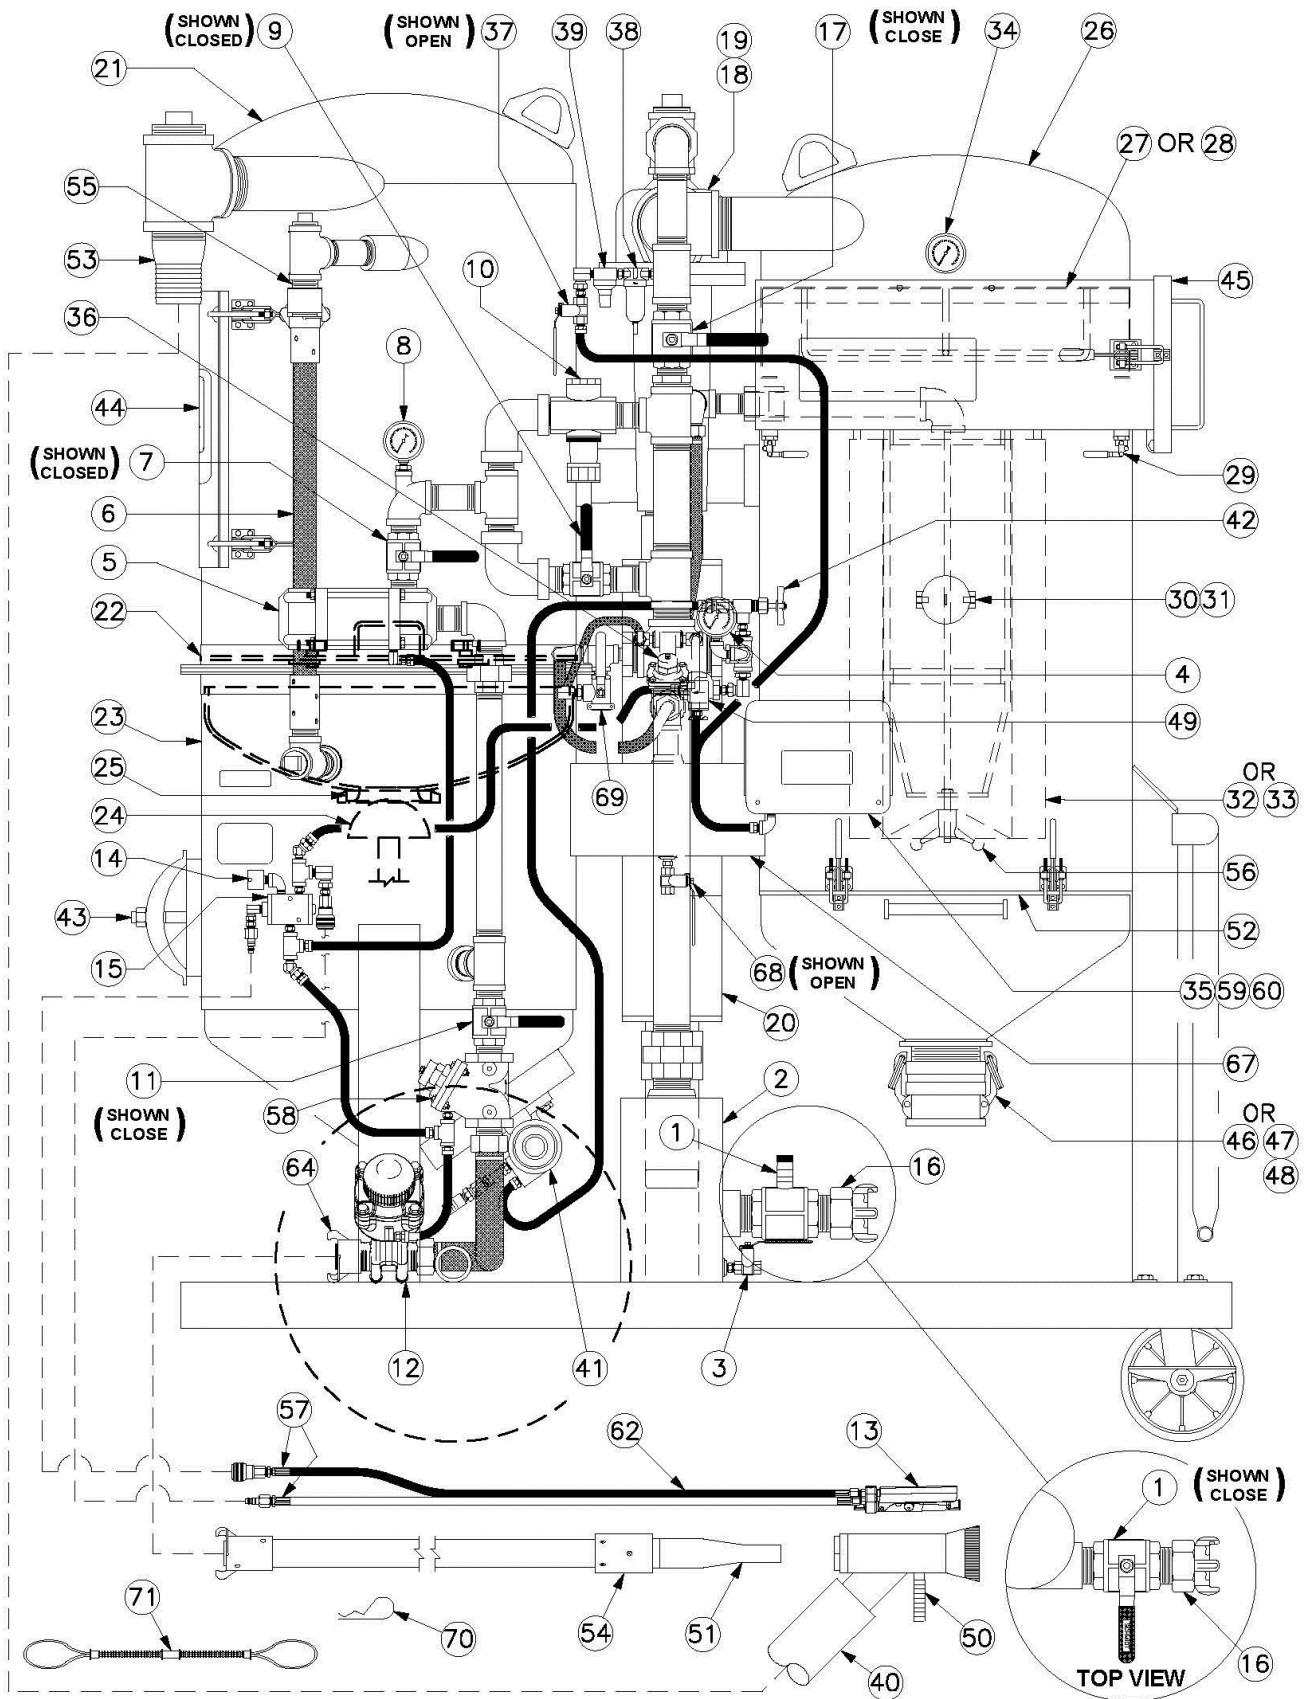

Figure 7.1 – Typical BRS Abrasive Blaster
7.2 Open Cycle Blasting Operation (See Figure 7.1)
- 7.3.5. Connect the vacuum hose (#40) between the blast head and the reclaimer vacuum inlet (#53). Refer to Figure 7.1.
7.4 Ending the Blast Operation (See Figure 7.1)
- 7.4.3. Close the air inlet ball valve (#1). The ball valve is closed when the handle is fully turned to the position shown in Figure 7.1 (handle perpendicular to body). The handle tab will bottom against the ball valve body in the closed position.